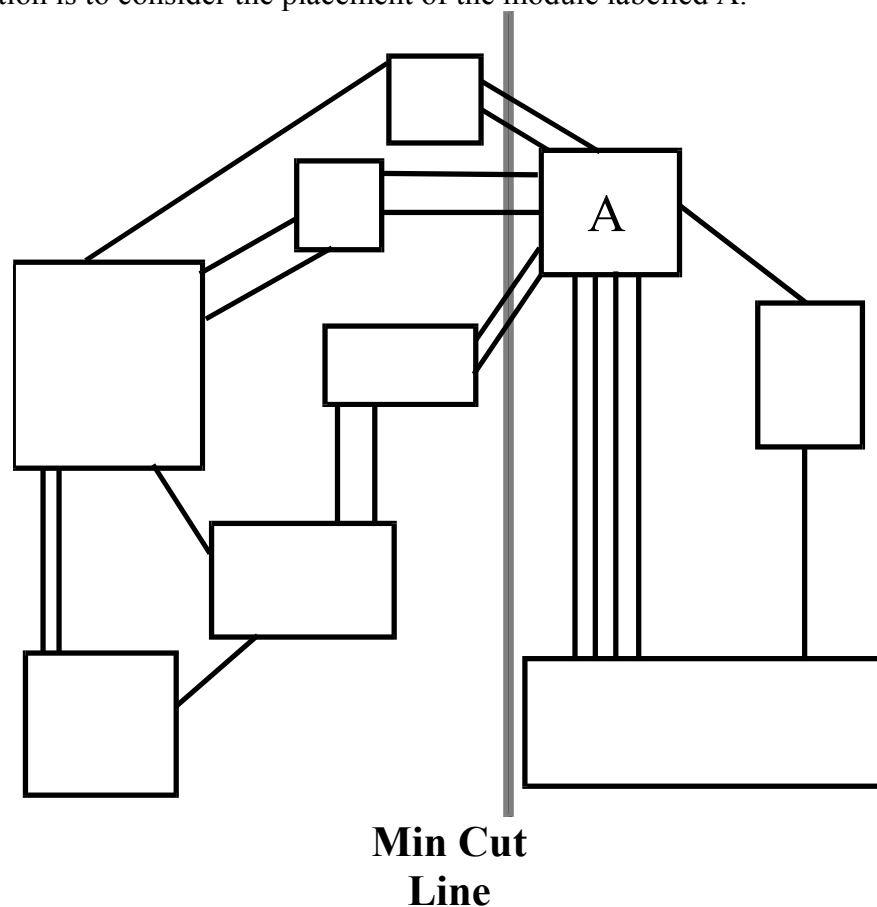

Figure 1
- (b) Figure 1 shows the layout of a chip at an intermediate stage of the layout process. The next action is to consider the placement of the module labelled A.